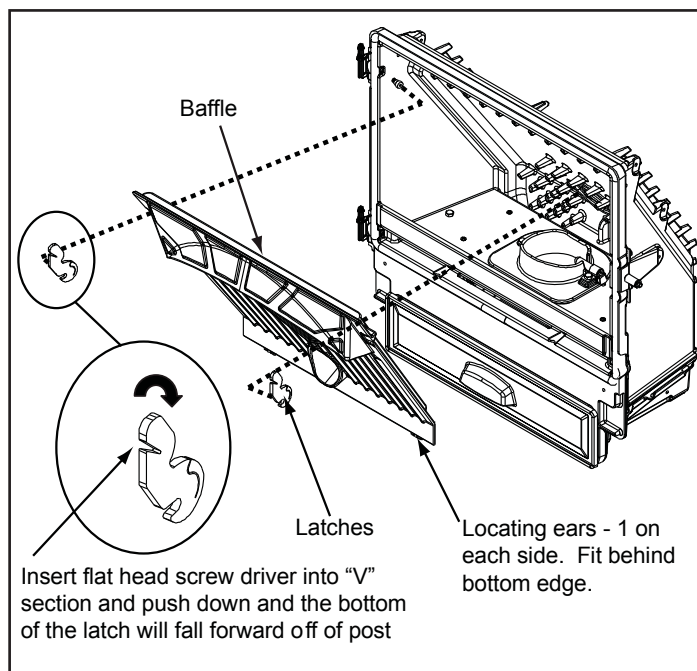

Figure 40.2
- d. Remove baffle by placing a flat head screw driver into the slot of the latches located in the upper corners and push down. The bottom of the latch will fall forward off of the post. Lift the baffle up and then out toward you. **Figure 40.2.**